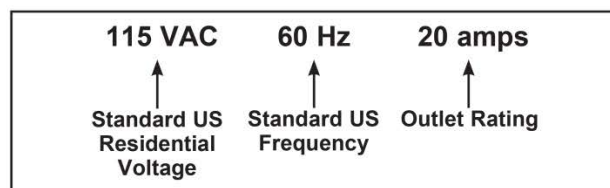
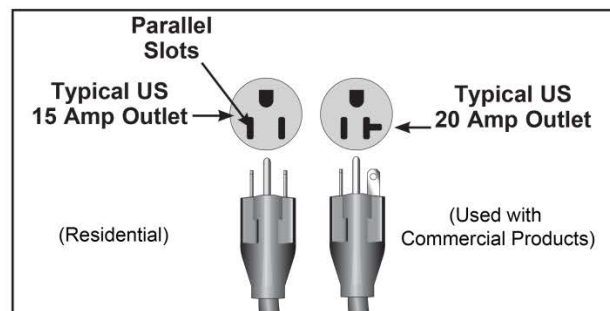

Figure 1
Figure 2
- TRUE's recommendation is to leave a 39" (0.99m) safety zone at rear of bike. The sides of the bike should be at least 24" (0.6m) away from the wall or obstructions. (See Fig 1)
For example, in the United States some TRUE treadmills require a circuit rated 115 VAC, 60 Hz and 20 amps. See Figure 1. However, a home typically has 15 amp outlets. In this case, contact an electrician to install a 20 amp dedicated line prior to use. See Figure 2.